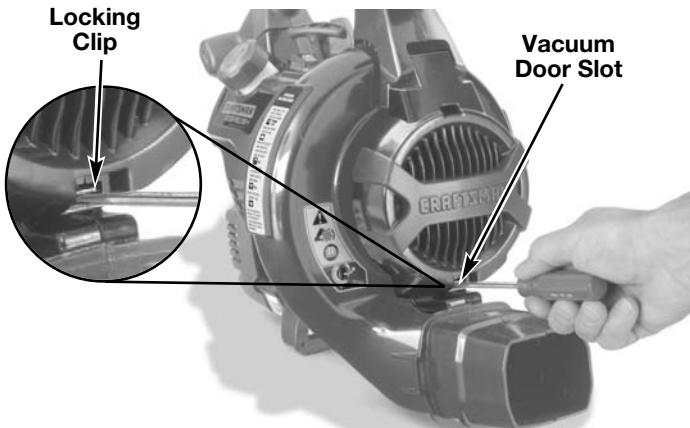

Fig. 3
- Flip the blower/vac so it is standing straight up on the muffler cover. The front of the unit and the vacuum door should face you (Fig. 3).